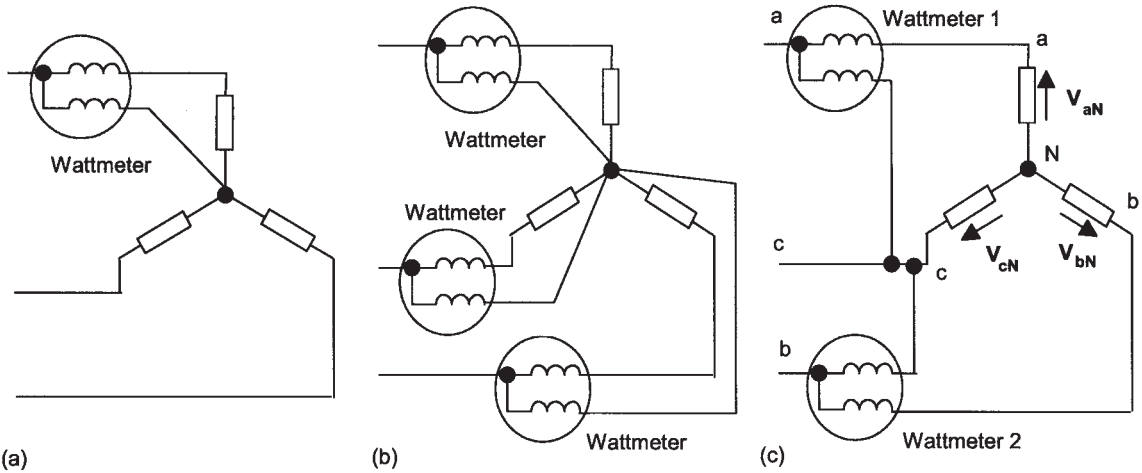

Figure 22.14 (a) Single wattmeter with balanced load, (b) three wattmeters, (c) two wattmeters
When, with a three-phase system, there is a balanced load, the total power consumed can be measured by the use of just one wattmeter. Figure 22.14(a) shows how it can be connected for a star-connected load; it can be used also with a delta-connected load. Since the total power consumed is three times the power consumed by a single element, connection of a wattmeter to measure the power through a single element means that the result has just to be multiplied by three to give the total power.
The power in any three-phase system, whether balanced or unbalanced, can be measured using three wattmeters. A wattmeter is connected to each element and the total power is the sum of the three wattmeter readings. Figure 22.14(b) shows the arrangement for a star-connected system; a similar arrangement can also be used for a delta-connected system.
It is, however, possible to measure the power in a balanced or unbalanced system by using just two wattmeters. Figure 22.14(c) shows the arrangement with a star-connected system. The current-carrying coils are placed in series with any two of the three lines and the voltage coils between these lines and the other line.
Two wattmeters are used to measure the power consumed by a three-wire, balanced star-connected system (as in Figure 22.14(c)). If the meters gave readings of 6 kW and -2 kW, what is the total power consumed and the power factor?
- 14 Two wattmeters are used to measure the power consumed by a three-wire, balanced star-connected system (as in Figure 22.14(c)). If the meters gave readings of 6.5 kW and $-2.1\ \text{kW}$, what is the total power consumed and the power factor?
- 15 Two wattmeters are used to measure the power consumed by a three-phase balanced motor (as in Figure 22.14(c)). If the meters gave readings of 300 kW and 100 kW, what is the total power consumed and the power factor?
- 16 A balanced 400 V, 50 Hz three-phase supply is connected to a balanced star-connected load, each element having a resistance of $10\ \Omega$ and a reactance of $30\ \Omega$. Two wattmeters are used to measure the power consumed (as in Figure 22.14(c)). What will be the readings on the meters?